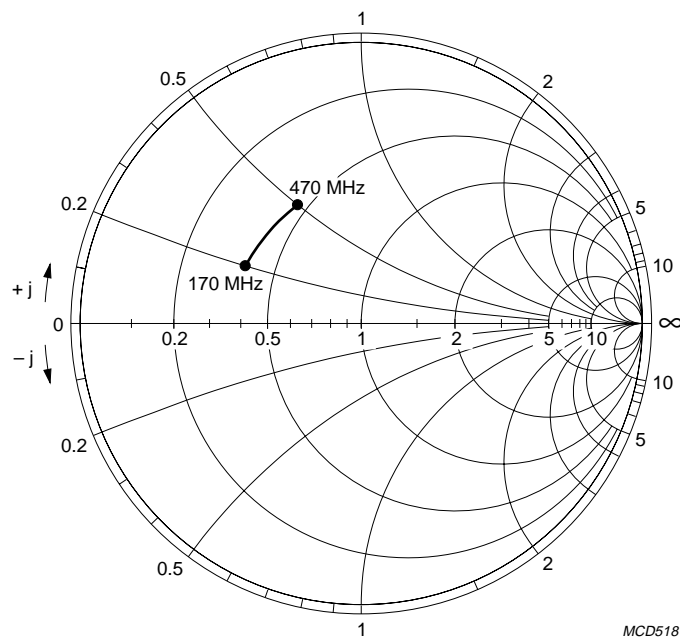

Fig.8 Input impedance ( $S_{11}$ ) of the band B mixer input (170 to 470 MHz) (Z chart).
- The gain is defined as the transducer gain (measured in Fig.8) plus the voltage transformation ratio of L7 to L8 (5 : 1, 15.4 dB).
- The capacitors in the oscillator circuits of Fig.8 are as follows:
## Components values for Fig.8